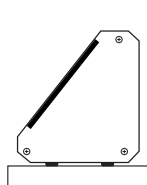

FIGURE 1: Desktop or table top
- **Desktop or table top**—The station panel is installed in the angled face (Figure 1 below).